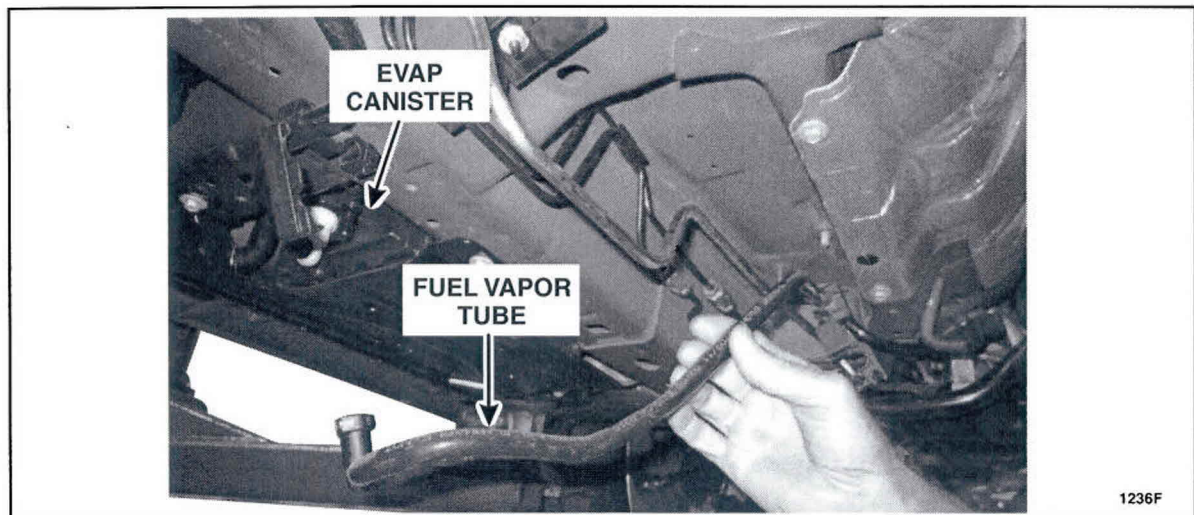

FIGURE 4
9. Disconnect the fuel vapor tube from the EVAP canister and position aside. For additional information, refer to WSM Section 310-00. See Figure 4.
7. Reposition and connect the fuel vapor tube to the EVAP canister. For additional information, refer to WSM Section 310-00. See Figure 4.